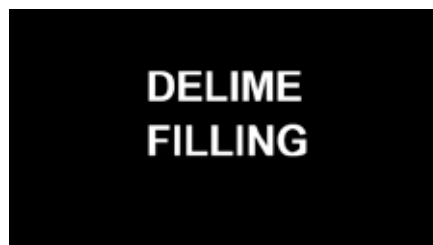
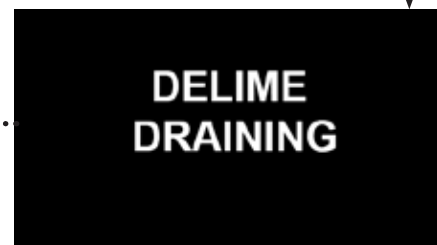

Fig. 58 - DELIME FILLING
Fig. 57 - DELIME DRAINING
13. Machine drains, Fig. 57. Machine fills, Fig. 58.